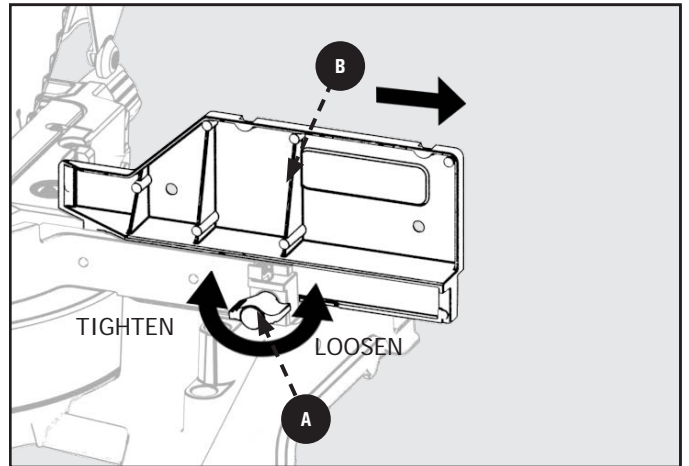

Figure 39
1. Loosen the fence lock knob **A**. Slide the upper fences **B** completely out of their tracks and set them to the side. See Figure 39.